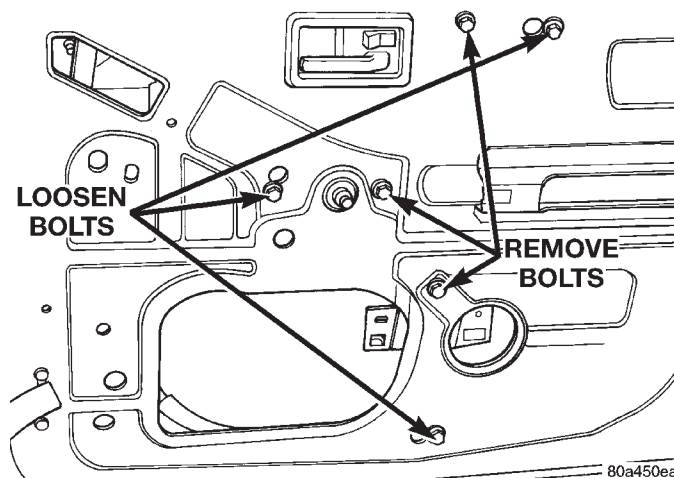
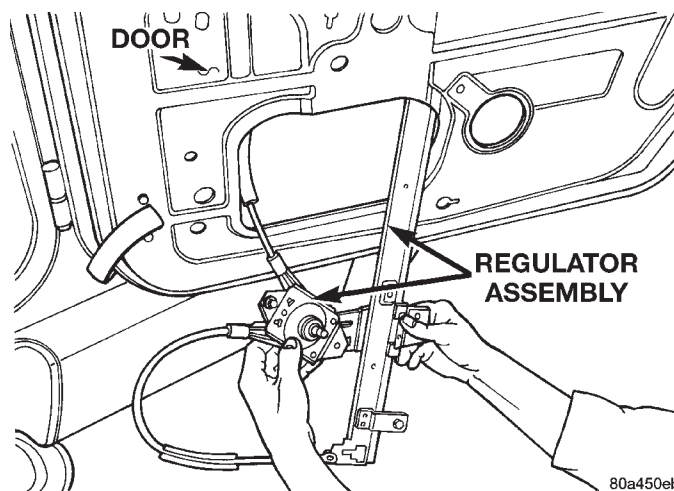

Fig. 32 Window Regulator Bolts
Fig. 33 Regulator Removal
- (1) Remove door trim panel.
- (2) Remove door glass.
- (3) Loosen the bolts in the slotted holes (Fig. 32).
(4) Remove the bolts attaching the regulator to the door inner panel.
(5) Lift the regulator upward to free it from the slotted holes in the door inner panel.
(6) Lower the regulator and remove it through the access hole in the door inner panel (Fig. 33).